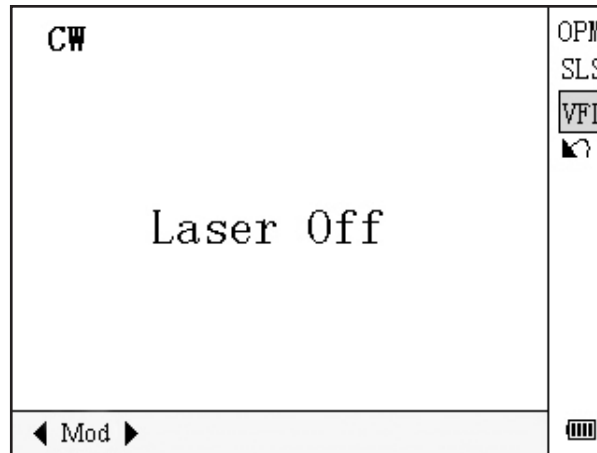

Figure 4-14. Visible Fault Locator
1. Enter PM/LS interface as described in “Power Meter, Laser Source, and VFL Configuration” in Section 3. Use ▲ and ▼ to highlight “VFL”, and press **Enter** to enter VFL interface (Figure 4-14).